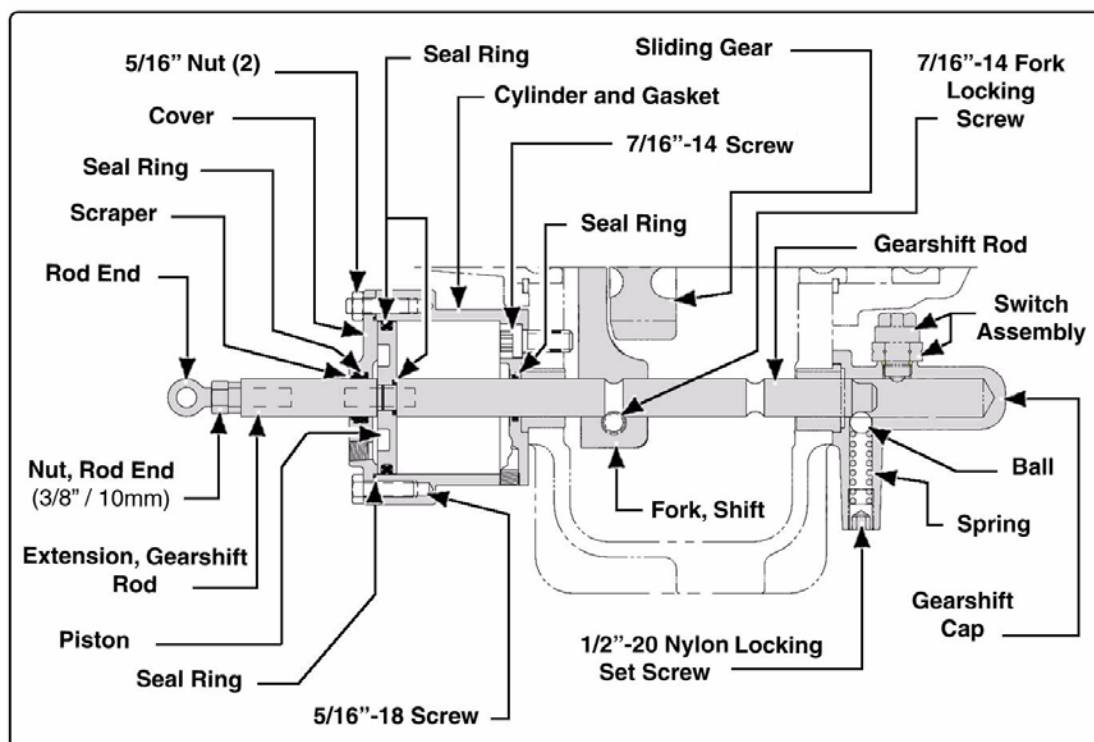

Figure 9-3: Power Gearshift Assembly
(See Figure 9-3: "Power Gearshift Assembly" on page 152.)
6. Make a note of the location of the fork in relation to the gearshift shaft before removing the fork. (See Figure 9-3: "Power Gearshift Assembly" on page 152.)
- ☐ Electrical switches from the gearshift cap - see Figure 9-3: "Power Gearshift Assembly" on page 152.
10. Install a new shifting cylinder gasket. (See Figure 9-3: "Power Gearshift Assembly" on page 152.)
14. Install a new piston outer seal ring. (See Figure 9-3: "Power Gearshift Assembly" on page 152.)